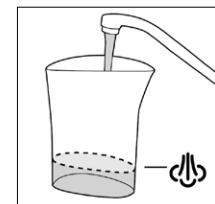

Figure 12
2. Fill the water measuring pitcher to the steam line  with filtered water (Figure 12) and pour into reservoir.